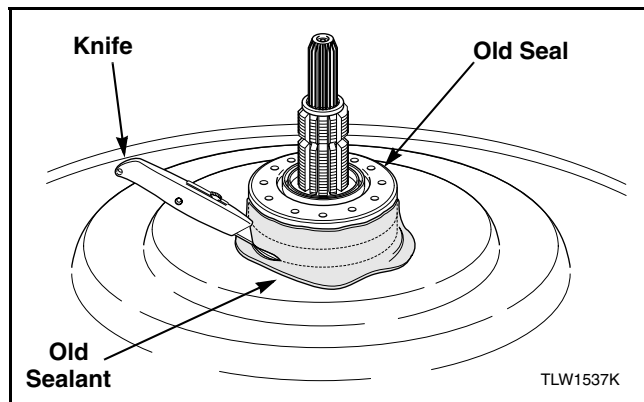

Figure 44
- Using a retractable knife, cut through old sealant. Refer to *Figure 44*.